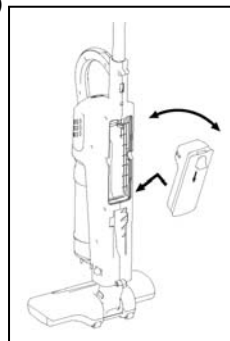

Fig. 4
5. Hold the battery and insert the bottom part first into the opening found at the back of the unit. Then rotate in place making sure that it clicks into place. (Fig. 4)